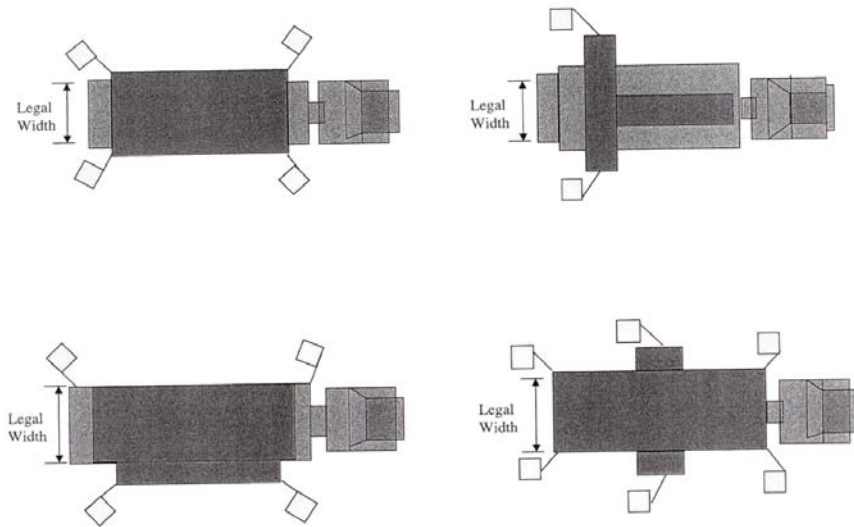

Figure 4.1: Warning Flags on Overwidth Loads
4.6.2.2 Warning flags are required on vehicles and loads, which exceed legal width. These vehicles and loads are required to bear flags at the extremities of the vehicle or load as shown in Figure 4.1.